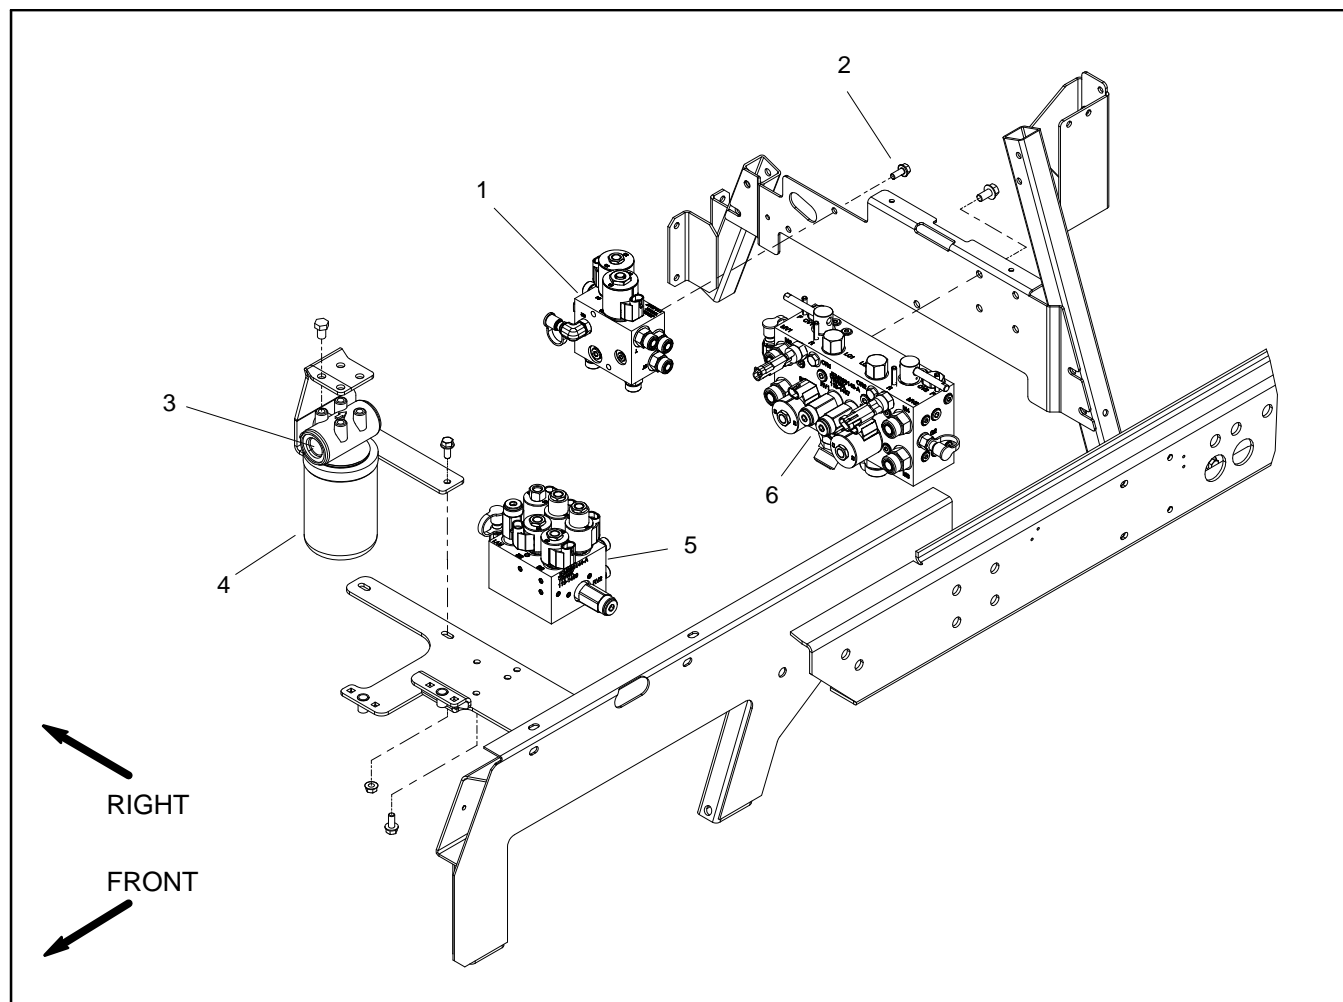

Figure 85
Removal (Fig. 85)
7. Remove hydraulic manifold from the frame using Figure 85 as guide.
Installation (Fig. 85)
2. Install hydraulic manifold to the frame using Figure 85 as guide.